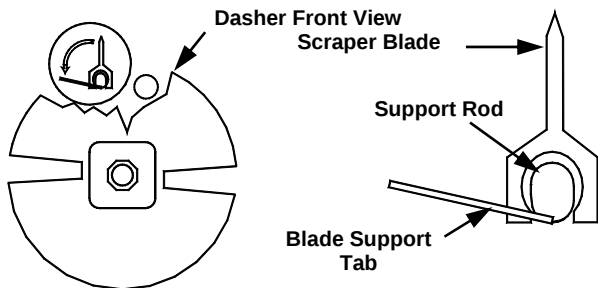
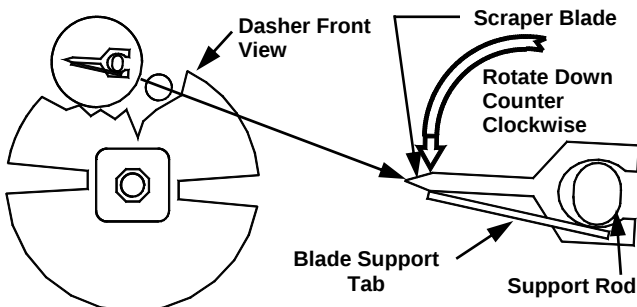

Fig. 24
Fig. 25
- f. Install the scraper blades onto the dasher assembly by holding the blades perpendicular to the tabs (Fig. 24) and then snapping them over the flat area of the support rod. Then rotate the blades downward in a counterclockwise direction as viewed from the front of the dasher (Fig. 25). **BE CERTAIN THAT THE SCRAPER BLADES REST UPON THE DASHER TABS ON ALL DASHERS EXCEPT HIGH CAPACITY MACHINE DASHERS. THOSE BLADES REST UPON PINS.**